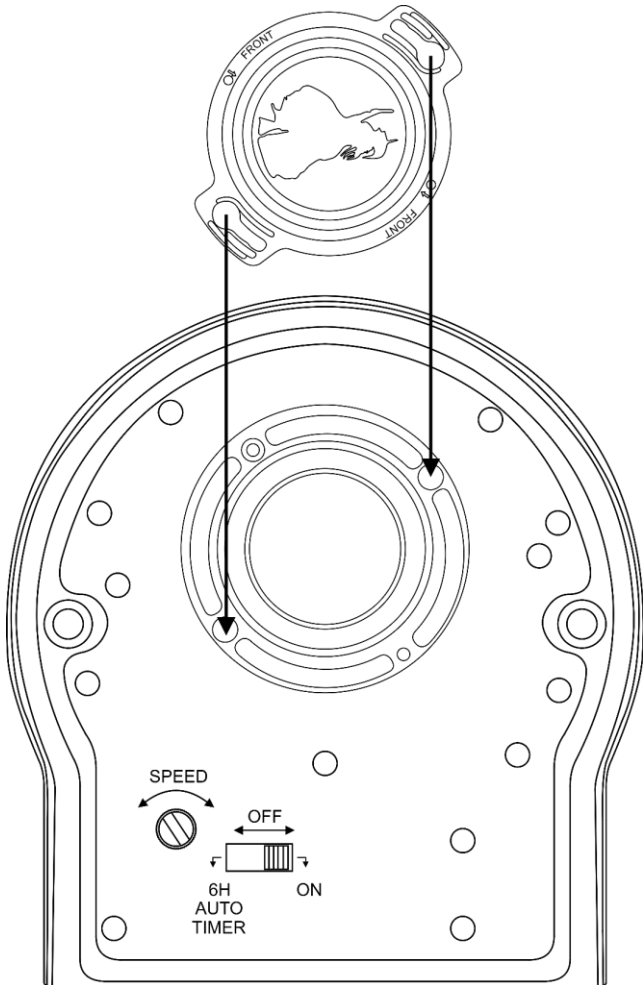

Fig. 05
02) Take one of the included 6 gobos and insert it into the gobo holder (04) (fig. 05).